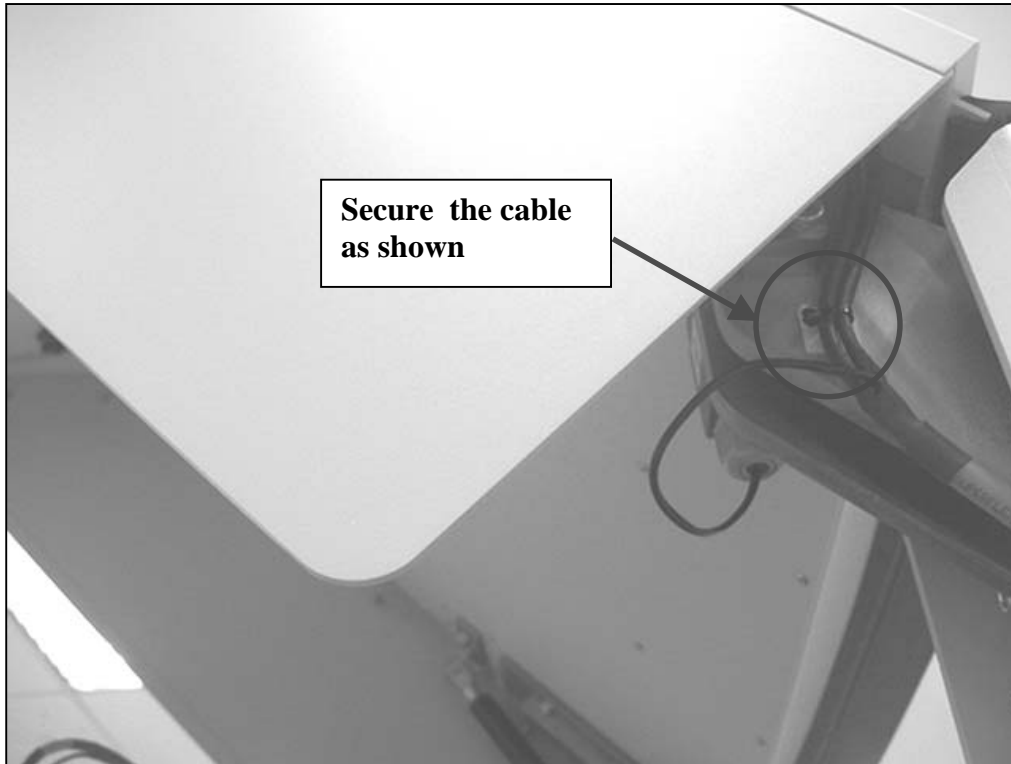

Figure 3
3. Use a cable tie (5186-1684) to secure the cable tie to the cable tie base shown in **Figure 3**.